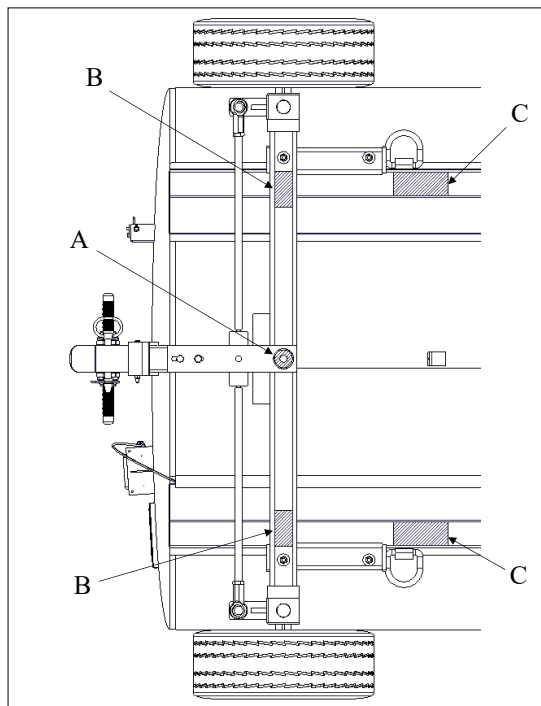

Figure 4-2 Lift Points
- Raise equipment with suitable maintenance jack (See Figure 4-2, arrow A for jack placement) high enough to remove wheel assembly.
- Place approved jack stands under front axle (See Figure 4-2, arrow B for stand placement).
To remove the entire Front Undercarriage assembly, the equipment must have the front end raised. See Figure 4-2 for lift points.
- Raise equipment with suitable maintenance jack (See Figure 4-2 arrow A for jack placement) to allow two inches of space between the wheels and ground.
- Place cribbing under tank skids (See Figure 4-2, reference arrows C) to safely support the equipment.
To remove wheel assembly, the equipment must have the back end raised and placed on approved jack stands. Points A and B are similar on both the rear and front axles. (See Figure 4-2)
- Raise equipment with suitable maintenance jack high enough to remove wheel assembly. (See Figure 4-2, arrow A for jack placement) .
- Place approved jack stands under rear axle (See Figure 4-2, arrow B for stand placement).